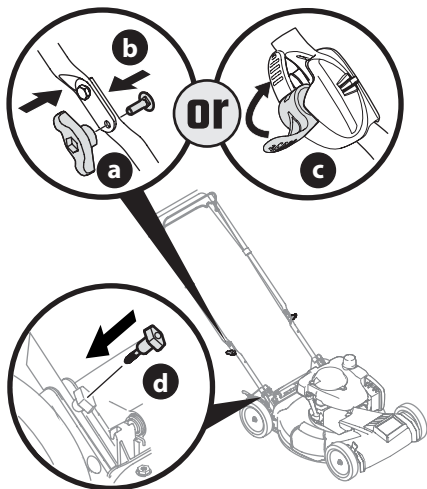

Figure 4
- Reattach knobs or wing nuts (a) and carriage bolts (b) removed in STEP 2 into lower holes of the handle or lock the EZ-fold handle release levers (c) (Figure 4).
- Insert the T-bolts (d) removed in STEP 4 through the handle brackets and lower handle (Figure 4) and tighten securely to secure the handle in place.